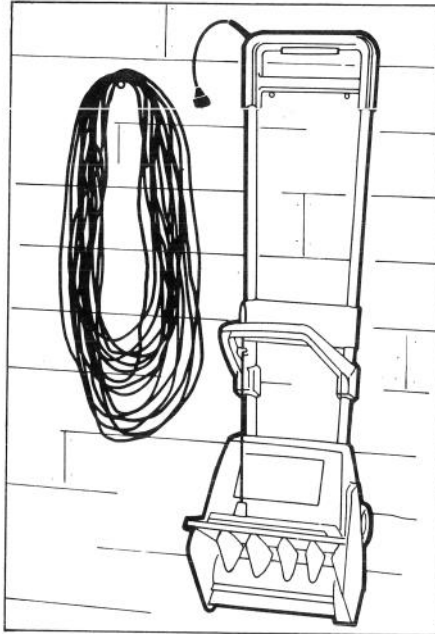

Figure 9
8. Remove the key and disconnect the extension cord when through using the snowthrower. Keep the key in a memorable place so it will not be misplaced. Set the vanes in a vertical position and hang snowthrower up *by switch guard* for convenient storage, and to prevent switch damage (Fig. 9). Hang the extension cord with the snowthrower so it will not be misplaced or possibly damaged (Fig. 9).